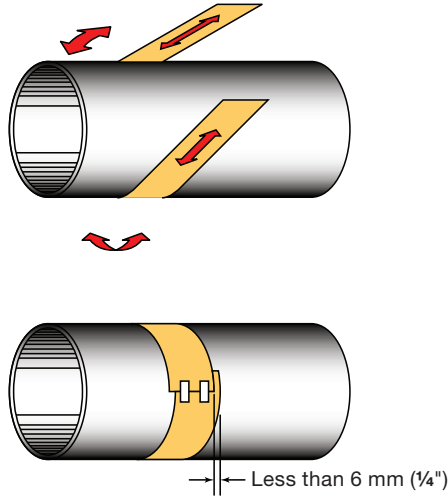

Fig. 17 Paper template alignment
- 1) Wrap the paper around the pipe in the manner shown in *Fig. 17*. Align the paper ends to within 6 mm ($\frac{1}{4}$ ").